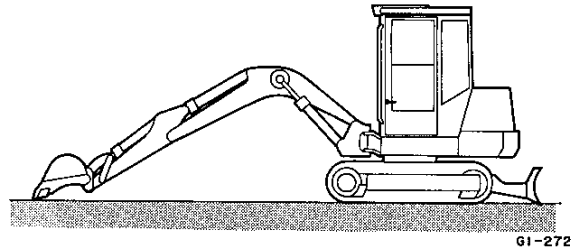
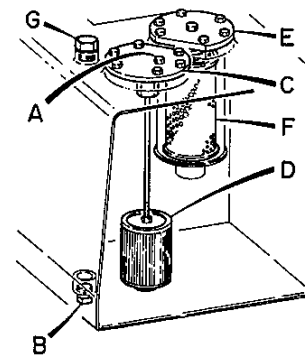
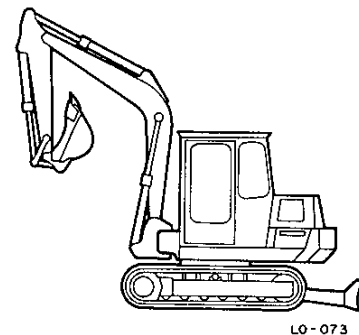

Fig. 1
Fig. 2
Fig. 3
How to change the oil (refer to Fig. 1 and Fig. 2)
Pouring in hydraulic oil (Refer to Fig. 2 and Fig. 3)
- ❖ Extend the bucket fully and bring the bucket and dozer blade in contact with the ground. (Refer to Fig. 1)Hydraulic oil check posture
Pressurizing the hydraulic tank (Refer to Fig. 3)
- (Refer to Fig. 3)Posture during tank pressurization
Replacing the return filter (Refer to Fig. 2 and Fig. 4).